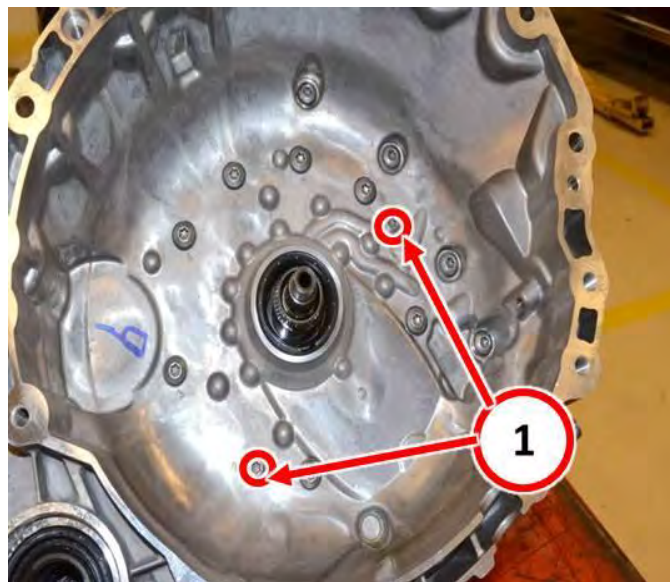

Fig. 5 Inner Bellhousing Bolts
12. Remove the inner bellhousing bolts (Qty 11). **Do Not** remove bolts (1) at this time (Fig. 5).